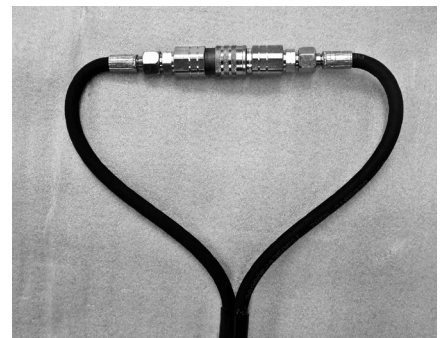

Fig. A.06
3. Couple the two ends of the hoses (plug and bushing) together in order to create a short circuit connection. (Fig. A.06)